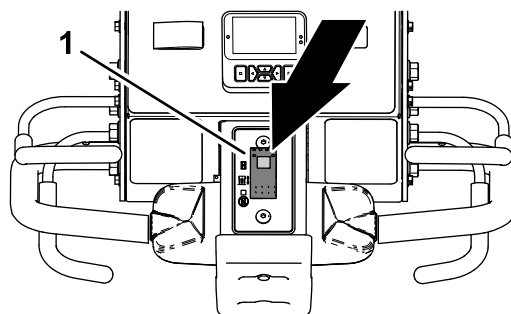

Figure 82
1. Press the top of the drop-control switch (Figure 82) to the DROP-DELAY position.